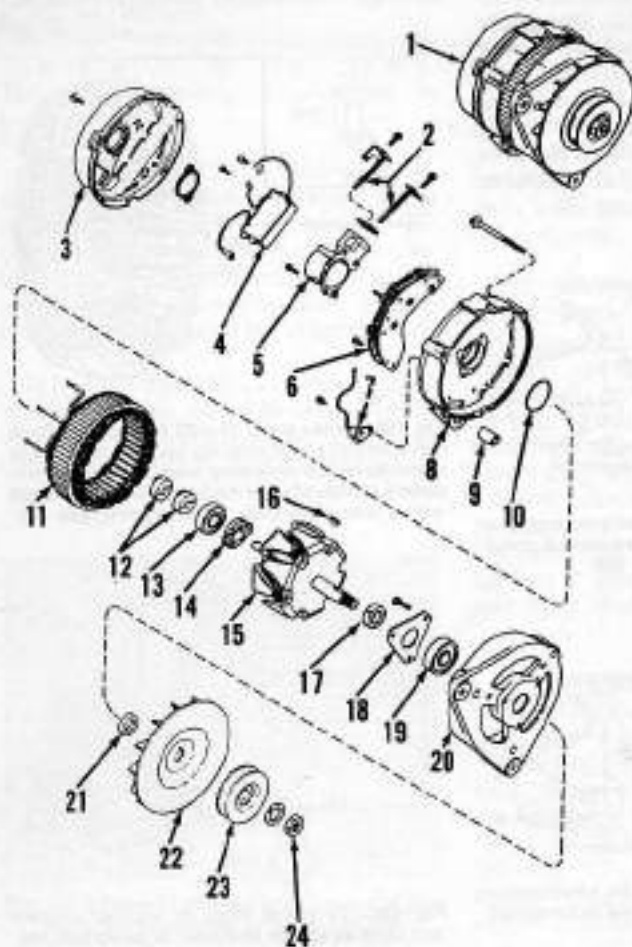

Fig. 100—Exploded view of heavy duty Lucas alternator used on models having cab or high electrical requirements.
**192. DISASSEMBLY.** Scribe locating marks on alternator housings as shown (1—Fig. 100) and remove cover (3). Remove regulator (4) and brush holder (5). Unsolder stator (11) leads and remove rectifier assembly and surge (isolation) protection diode. Remove retaining bolts and separate drive end housing (20) and rotor assembly (15) from rear housing (8) and stator assembly (11). Remove nut (24), pulley (23), fan (22) and collar (21), then press rotor assembly (15) out of drive end housing bearing (19). Remove retaining plate (18) and bearing (19) from housing (20). Disconnect rotor leads and remove slip rings (12) from rotor shaft. Remove bearing (13) and seal (14). Remove stator (11) from rear housing (8).
**198. DISASSEMBLY.** Scribe locating marks on alternator housing as shown (1—Fig. 100) and remove nut, pulley (1—Fig. 101), fan (2) and spacer (3). Remove retaining bolts and separate drive end housing (4) and rotor assembly (9) from rear housing (13) and stator assembly (10). Press rotor (9) from drive end housing (4) and bearing (6). Remove retaining plate (7), bearing (6) and dust seal (5). Note location of insulating washers under screws at "A" and "B" connections (Fig. 107) at brush holder and remove retaining screws and nuts and remove diode trio (11—Fig. 101), brush holder (14), regulator (15) and rectifier assembly (12). Press needle bearing (16) out of rear housing (13) and renew as required.